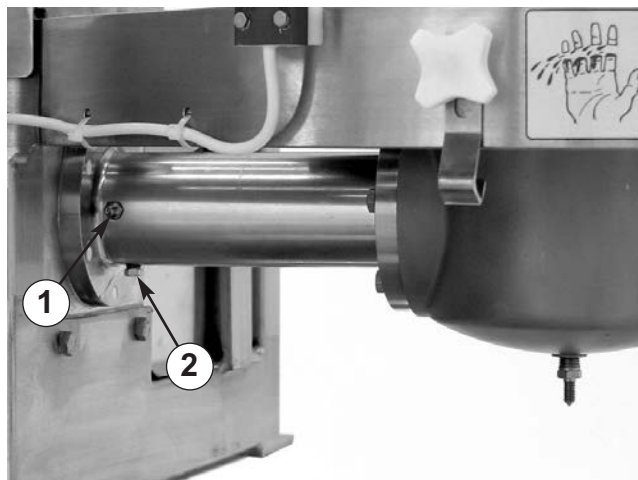
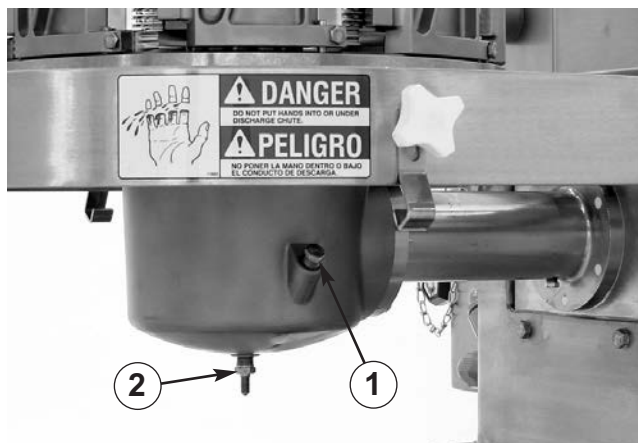

Figure 20 — Lubrication Points. (1) Grease Fitting, (2) Pipe Plug, horizontal bearing housing
Figure 21 — Lubrication Points. (1) Oil Filler Plug, gear case, (2) Pipe Plug, gear case
The machine has two (2) lubrication points. One grease fitting is located on the impeller drive assembly (Figure 20). An oil filler plug is located on the gear case (Figure 21).
1. **At least once per week**, remove the pipe plug in the horizontal bearing housing (Figure 20) and pump grease in through the fitting until any water is forced out. Replace the pipe plug and add two or three pumps of grease to fill the bearings.
2. **Every two weeks**, remove the pipe plug and drain the gear case (Figure 21). Check for the presence of water; oil will have a “milky” appearance. If little or no water is present, the check can be made every three or four weeks. Refill with the recommended oil through the oil filler plug on the side of the gear case. Maintain a level up to the fill hole.